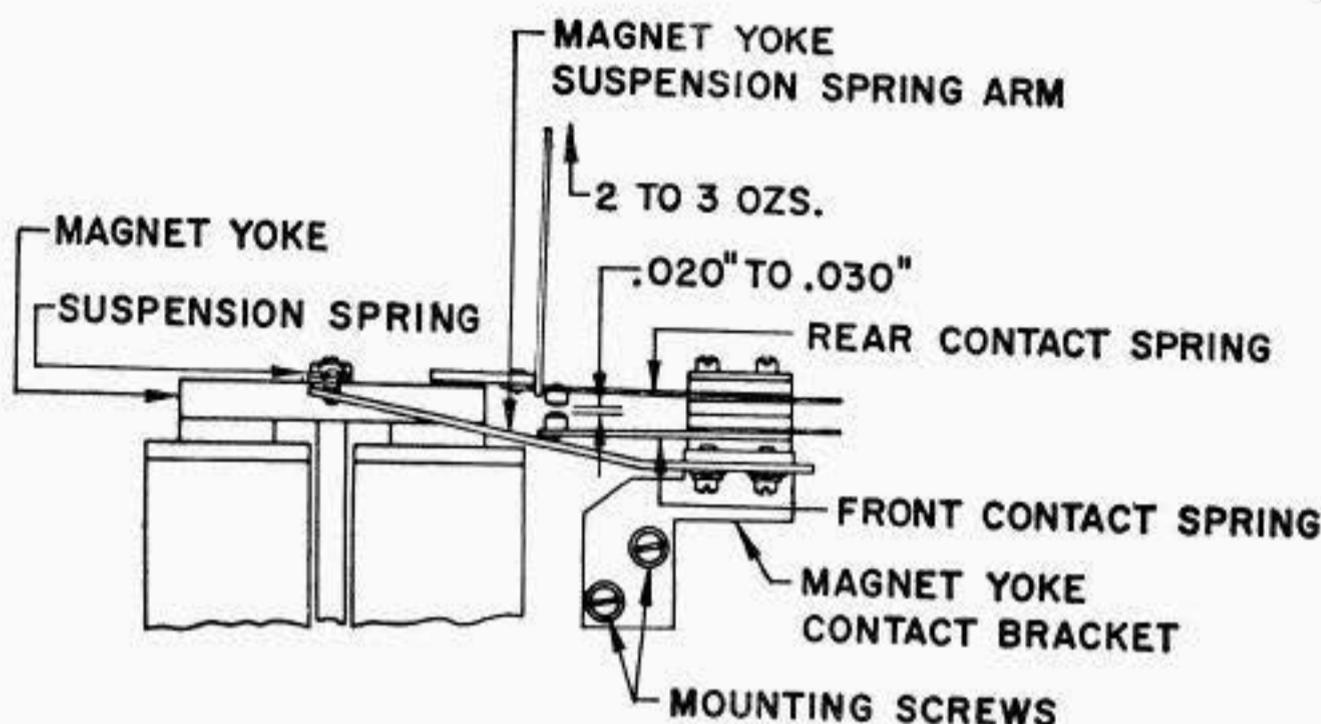

Fig. 11
(1) To adjust, position the spring arm by means of its mounting screws. **Fig. 11**
(1) To adjust, bend front contact spring and recheck 3.30(a). **Fig. 11**